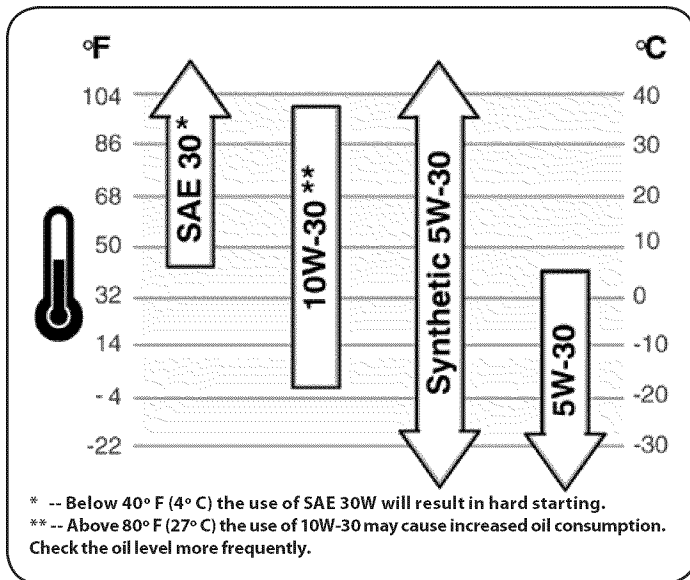

Figure 23
- Refer to the viscosity chart (Figure 23) for oil recommendations. Do not overfill. SAE 30 is recommended for general, all temperature use. Use a 4-stroke, or an equivalent high detergent, premium quality motor oil certified to meet or exceed U.S. automobile manufacturer's requirements for service classification SF, SG, SH, SJ or higher. Motor oils classified SF, SG, SH, SJ will show this designation on the container.